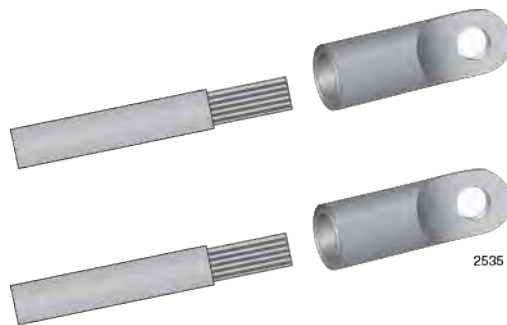

Figure 136. Attaching the Power Wires to the Straight Terminal Lugs
2. Insert the power wires into the terminals included with the power supply and use a crimping tool to secure the wires to the terminals. See Figure 136.